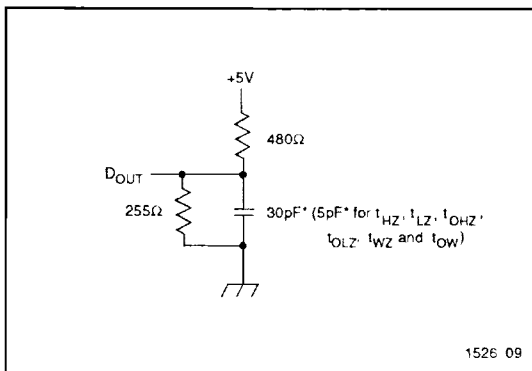

Figure 1. Output Load
- 8. Transition is measured ± 200 mV from steady state voltage prior to change, with loading as specified in Figure 1. This parameter is sampled and not 100% tested.
| Output Load | See Figures 1 and 2 |